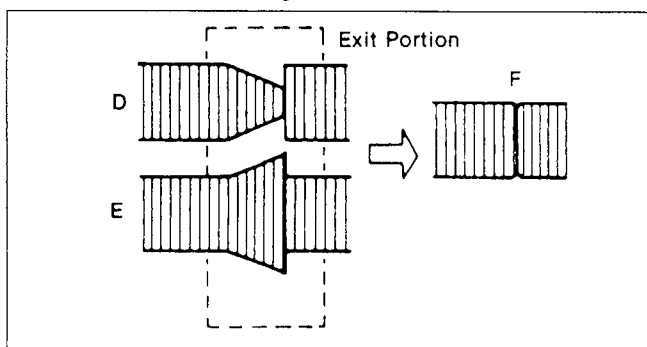

Figure M26-C
5. Adjust the tape guide post (P2) with the post adjustment screwdriver so that the RF envelope waveform at the entrance portion becomes flat as shown in Figure M26-B.